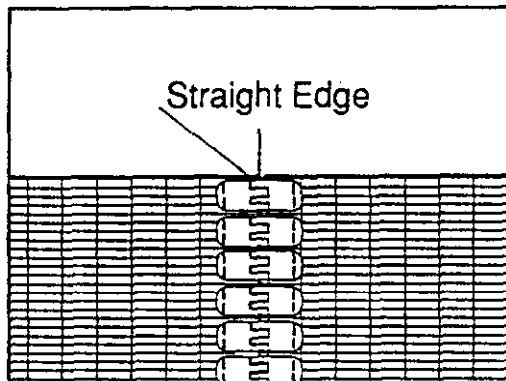

Figure 9
## CONVEYOR BELT INSTALLATION/TENSION (Fig. 9 & 10)
6. Feed the lacing through the conveyor belt seam. Make sure the lacing is lined up. If the lacing is off one notch it will cause the belt to buckle and not run straight. Check for straightness with a straight edge once it has been installed. See Fig. 9. After the wire is centered, bend both ends of the wire to prevent the wire from working loose.